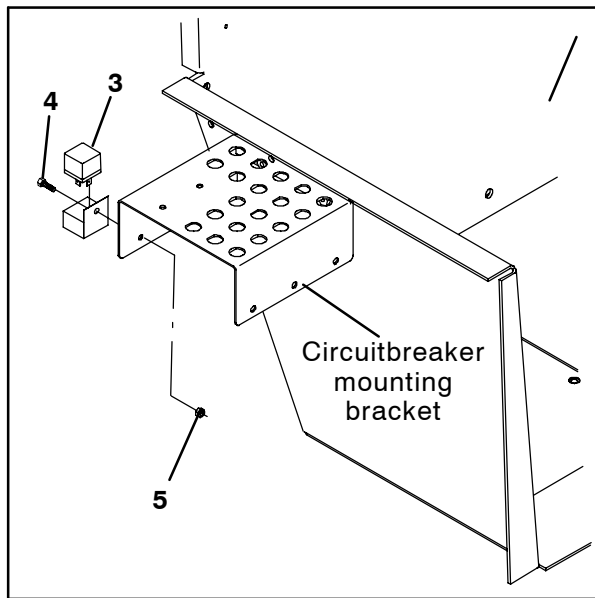

FIG. 5
13. **Battery Powered Machines Only:** Look for the relay located on the circuit breaker mounting bracket. Refer to Fig. 5.
14. **Battery Powered Machines Only:** If there is no relay located on the circuit breaker mounting bracket use a M5 hex screw (4) and a M5 hex nut (5) to install the 36 VDC relay (3) onto the circuit breaker mounting bracket. Refer to Fig. 5.
15. Starting from the front of the machine, at the hopper, and working to the back of the machine, remove the old wire harness from the machine. Connect the new main wire harness (1) to components immediately after removing the old main wire harness from that same component. Refer to connector labels and the wire diagrams and schematics in Fig. 5 through Fig. 19 for harness connection locations.
16. Use cable ties to secure the main wire harness (1) to the machine and away from moving components.